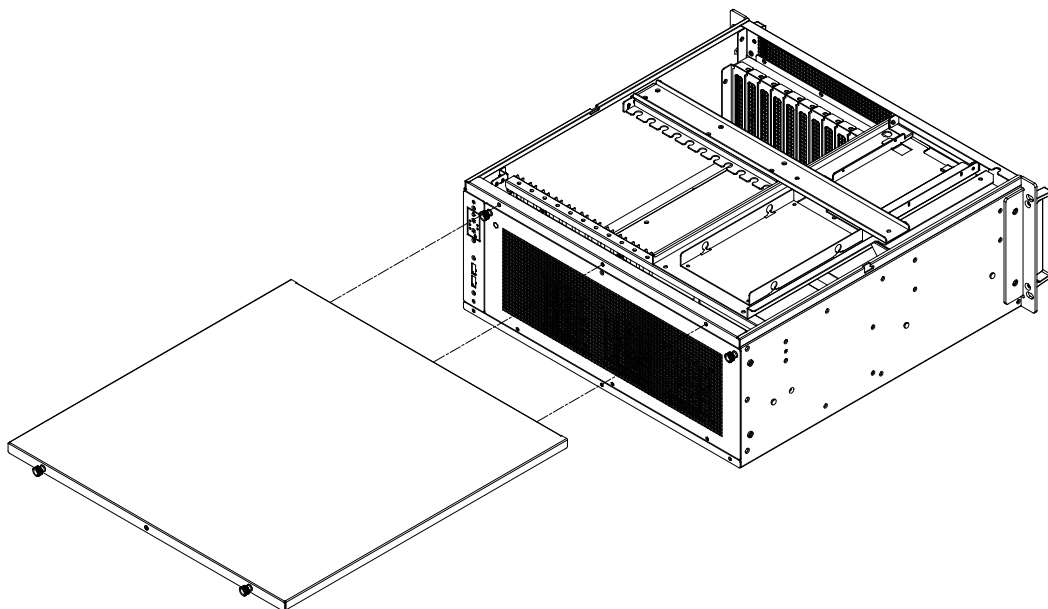

Figure 2.1 Removing the Cover/ 移除顶盖 / 移除上盖
2. Slide the top cover backwards and then lift it up (see Figure 2.1).